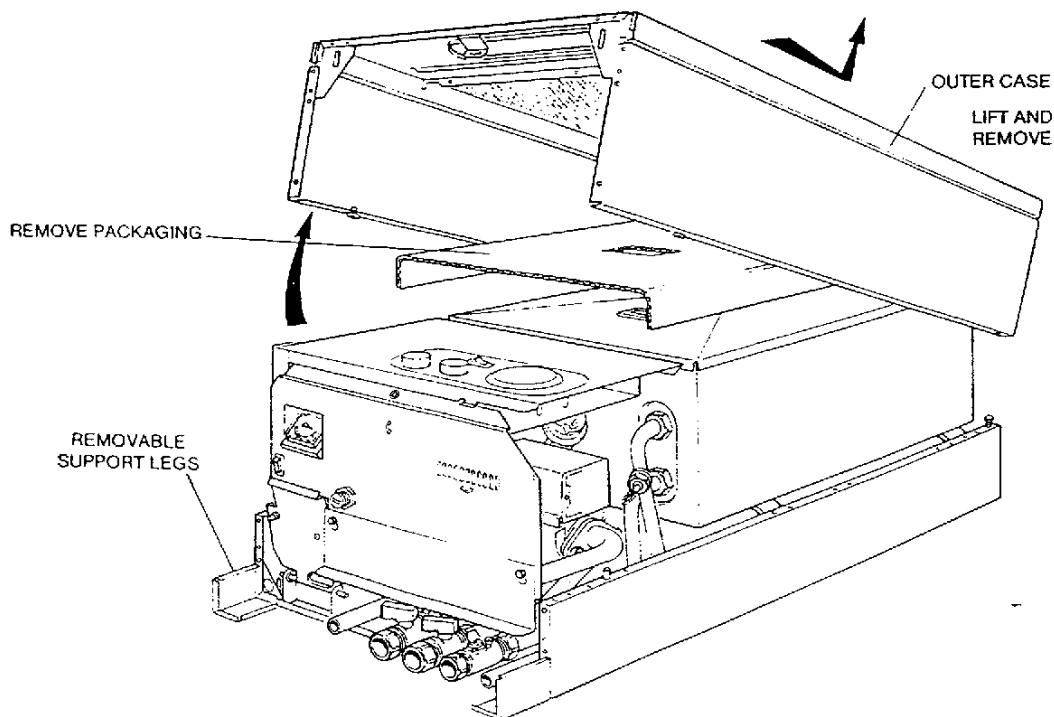

Fig. 13
Note: Two removable support legs are fitted to the base of the boiler to protect the pipework, care must still be taken when handling the combination boiler to prevent damage to pipework situated at the base of the appliance (see Fig.13)
- Remove the outer casing as follows; undo the securing screw at the base of the outer casing, pull the base of the casing forward approx 50mm and lift off the supporting top hooks. (See Fig. 13). Place the casing safely to one side. There is a transit packing piece of cardboard under the casing, this must be removed before installation.